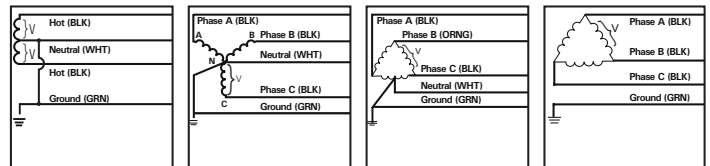

Figure 1
**A** = 120/240V, 1Ø, 3W (Fig 1)